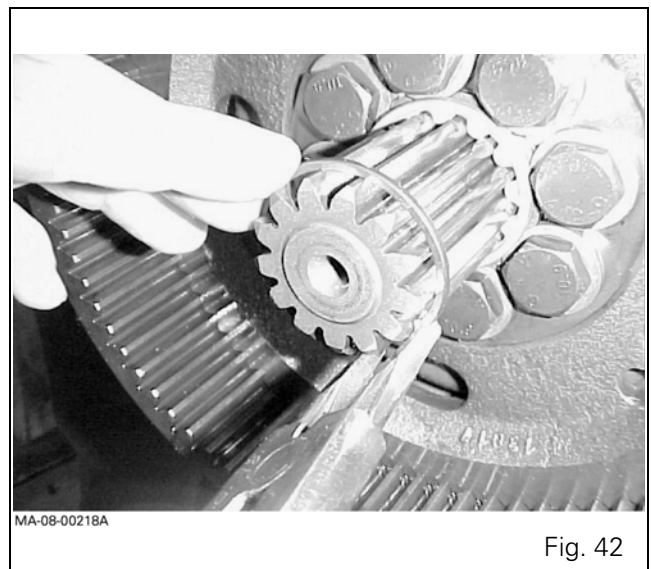

Fig. 42
39. Fit the snap ring. Take care not to damage it during assembly (Fig. 42).